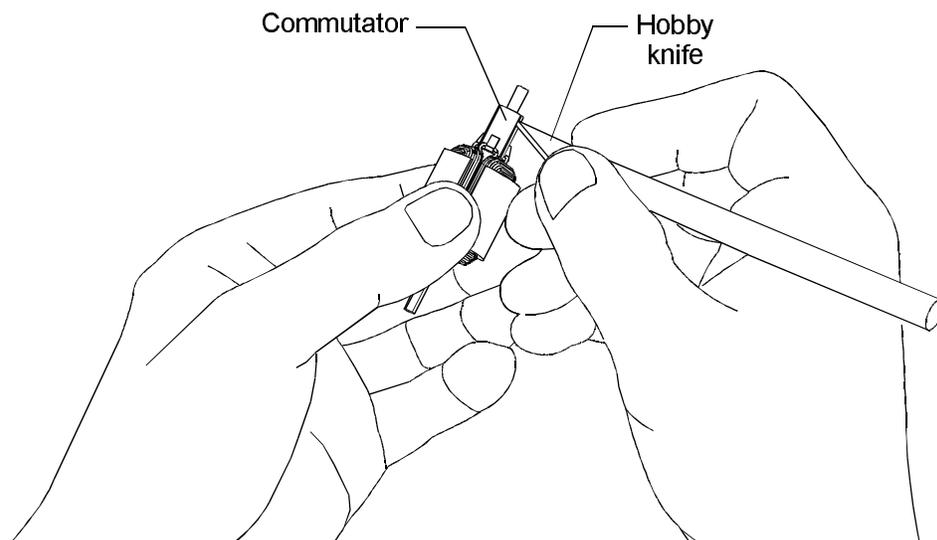

Figure 3-7.
9. Run a hobby knife in the slots between the commutator segments to remove loose particles as shown in Fig. 3-7.